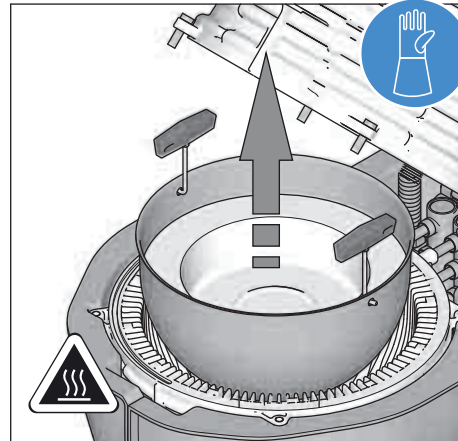

Fig. 9-13 Lifting out the bottom combustion chamber set (illustrated A1 BO 15-e / A1 BO 20-e)
- Remove the lower combustion chamber inset using the combustion chamber wrench (fig. 9-13).